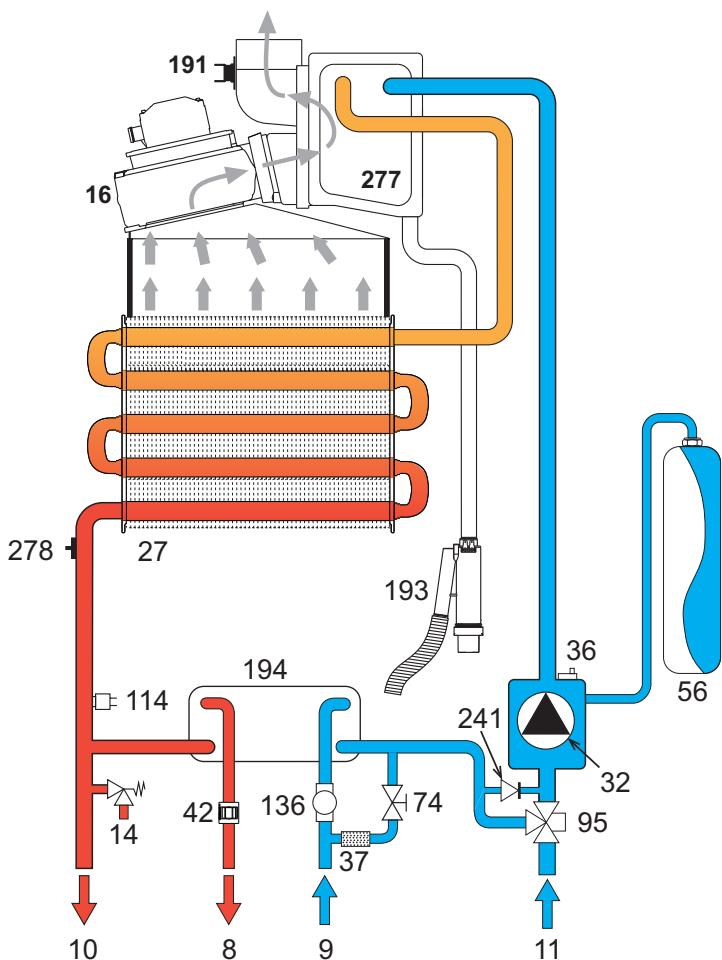

fig. 27- Heating circuit
5. TECHNICAL DATA AND CHARACTERISTICS**Table. 11- Legend, fig. 26, fig. 27 and fig. 28**